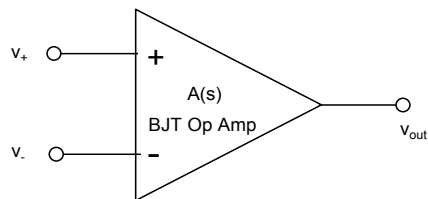

Figure 1.
Consider the BJT opamp circuit and its simple equivalent circuit both shown in Figure 1 below. All five BJT transistors, Q1-Q5, are contained within a single CA3096 chip. The output buffer stage is simply a 741 opamp configured in its unity-gain mode. For hand-calculations: 1) assume $V_{BE-on}=0.7V$ for all transistors, 2) assume the 741 is an ideal opamp and, 3) assume that the dc value of $V_{C3} = 0V$.
- A. Consider the BJT opamp, by itself, in its open-loop configuration as shown in Figure 1.
A. **Make sure to connect Pin #16 on the CA3096 to -15V.** Using good "Manhattan" layout techniques, build the BJT opamp circuit as shown in Figure 1. Choose standard resistor and capacitor values which are as "close as possible" to those in Figure 1. Use a CA3096 chip for the five BJT transistors. Use a standard 741 opamp for the output buffer as shown. The pin-out diagrams for both the CA3096 and the 741 are attached to this document for your reference. **Remember to use Cursors/V-Bars and H-Bars on your scope, as necessary, to make the measurements in this lab.**